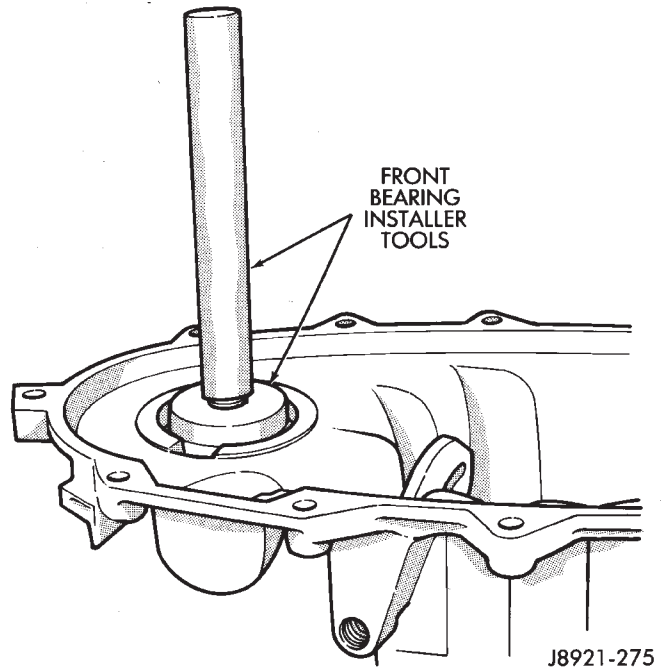

Fig. 43 Replacing Output Shaft Front Bearing
(3) Remove the old bearing and install the new bearing with a driver handle and installer tool (Fig. 43).